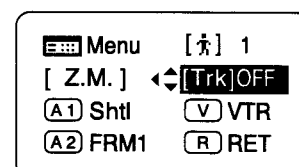

Fig. 2-9
2. Select [Trk] using the control key, and then push the Set key: [Trk] and the last setting now blink on the display. (Fig. 2-9)